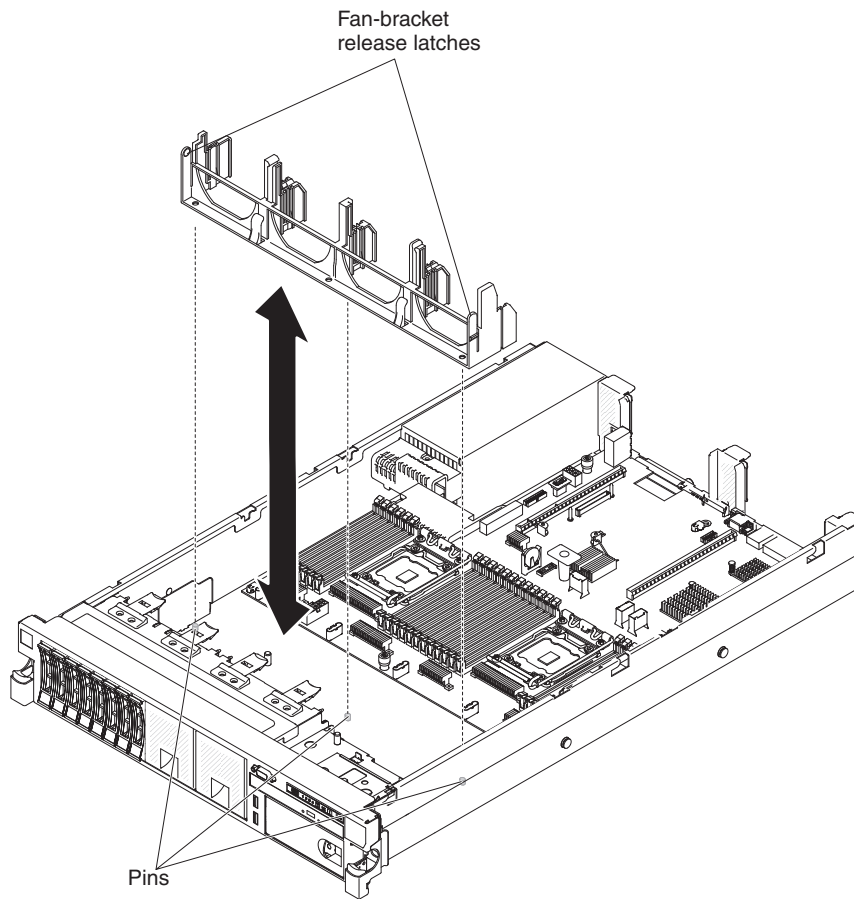

Figure 288. Replacing the fan bracket
1. Lower the fan bracket into the chassis, as shown in Figure 288 on page 349.